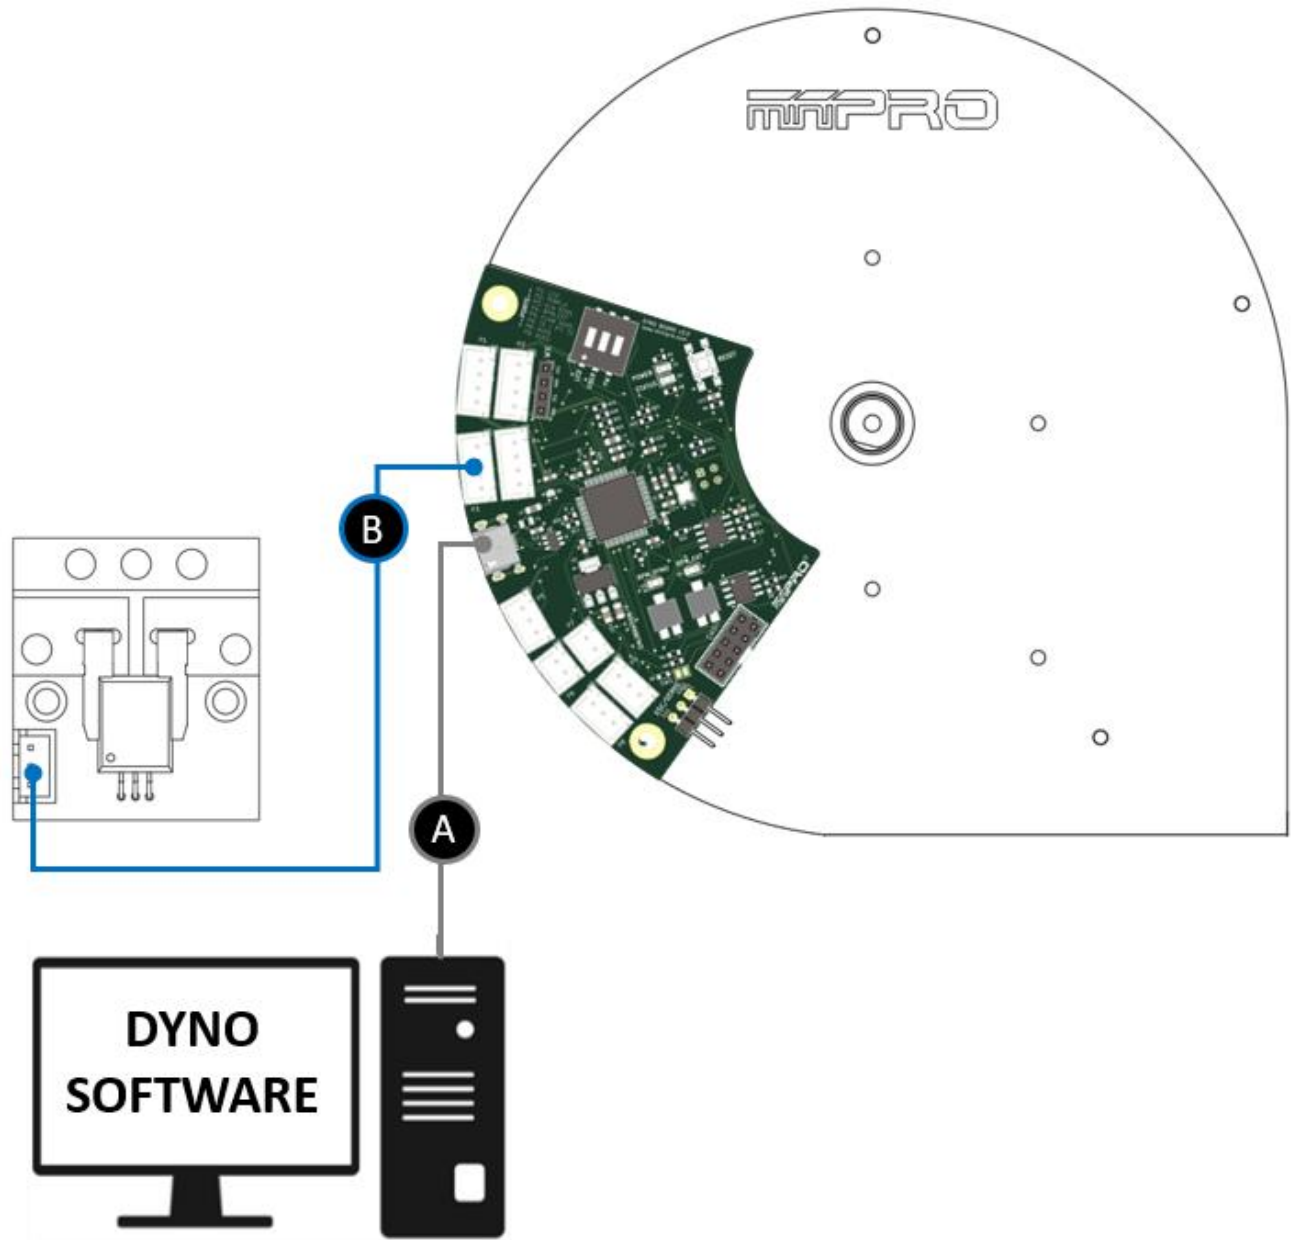

Figure 3: Dyno Controller Board V3.0 and later – Dyno to Board Wiring diagram
Warranty voided if it's not installed according to Figure 3.
4. Make sure that your sensor cable is connected to P3 or P9 (see Figure 3 and 4)